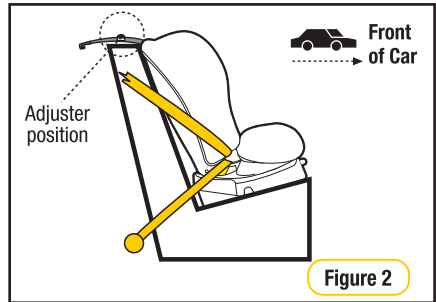

Figure 2
Step 2: Continue to shorten until you have reached the desired position at the rear of the restraint (See Figure 2).